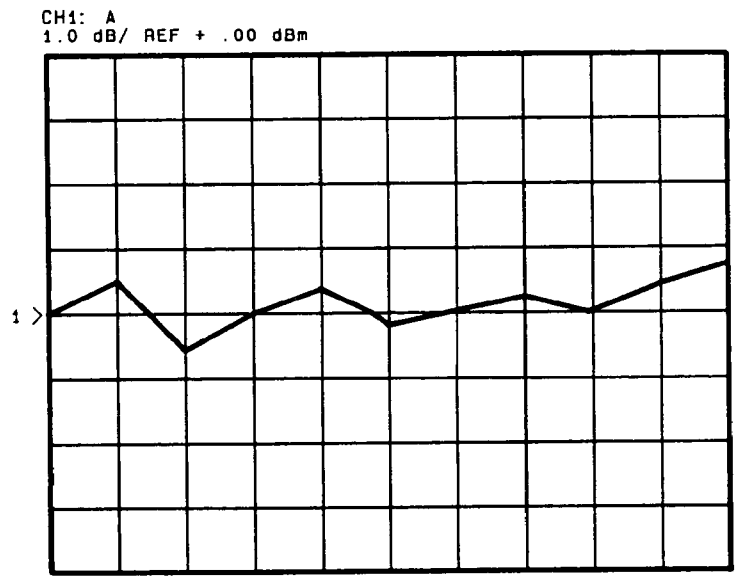

Figure 5-17. Actual LIMIT LINES Plot
51. When you are through entering the data, repeat step 47 to perform the LIMIT LINES plot. The display should resemble Figure 5-17. The actual shape of the plot is determined by the data entered.